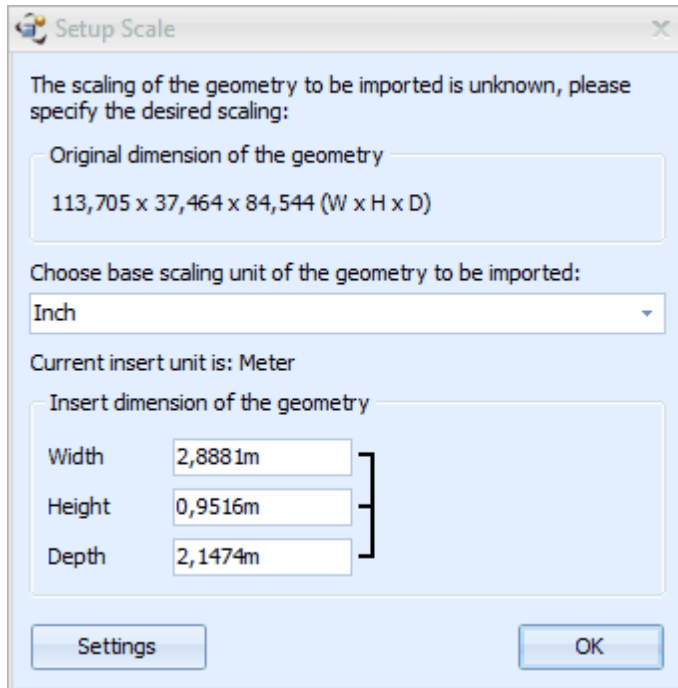

Figure 1
3. If in the file you want to import the **scaling unit is not defined**, the **dialog** as to be seen on figure 1 pops up. Now you need to **define the scaling unit yourself**, before the geometry can be imported in pCon.planner.